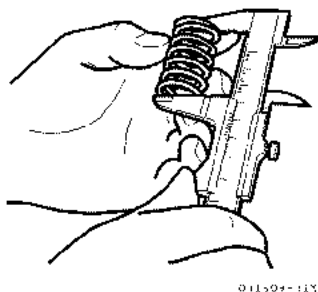

Figure 5-77
- Measure the free length of the spring (Figure 5-77).